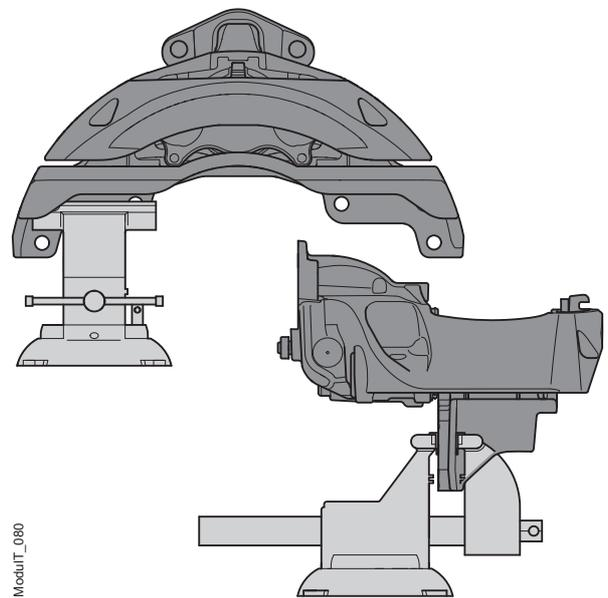

Figure 41. Clamping arrangement for replacing adjustment spindle bellows
1. Fasten the disc brake securely in a vice with soft jaws, see figure 41 for clamping arrangement. Ensure that the jaws of the vice do not damage the disc brake.